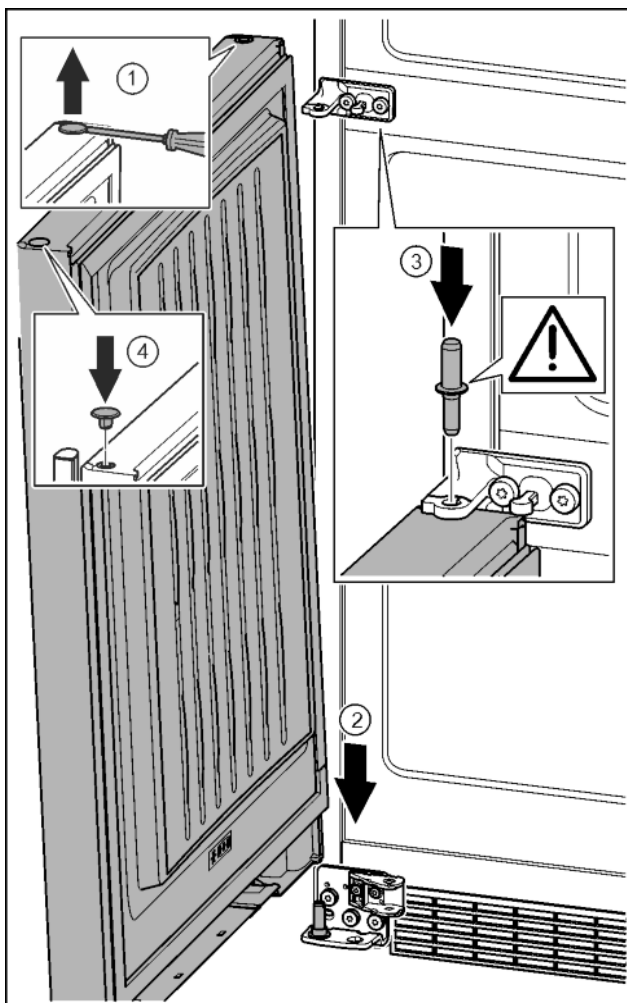

Fig. 34
- Carefully lift up the plugs with a slotted screwdriver and remove them. Fig. 34 (1)
- Position the door from above onto the lower bearing pins. Fig. 34 (2)
- Insert the centre bearing pin through the centre bearing bracket into the lower door. Make sure that the catch mechanism is pointing to the rear. Fig. 34 (3)
- Insert the plugs again on the other side of the door. Fig. 34 (4)